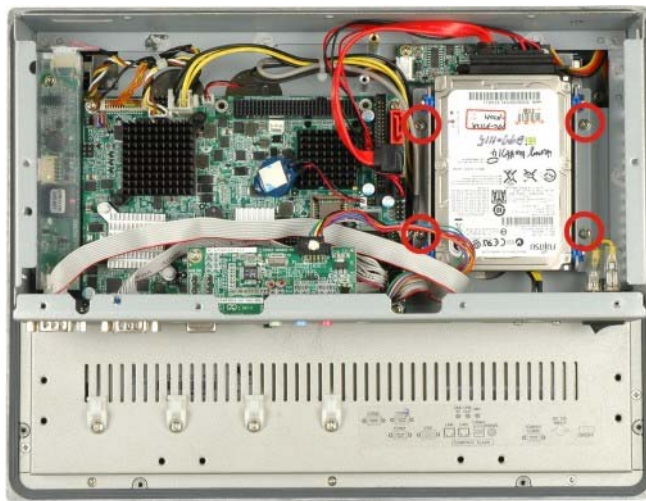

Figure 4-11: PPC-3712 HDD Retention Screws
Step 4: Install the HDD into the PPC-3712 by aligning the retention screw holes in the base of the HDD brackets with the retention screw holes on the metal sheet. Insert the four retention screws, two into the base of each HDD bracket (Figure 4-11.)